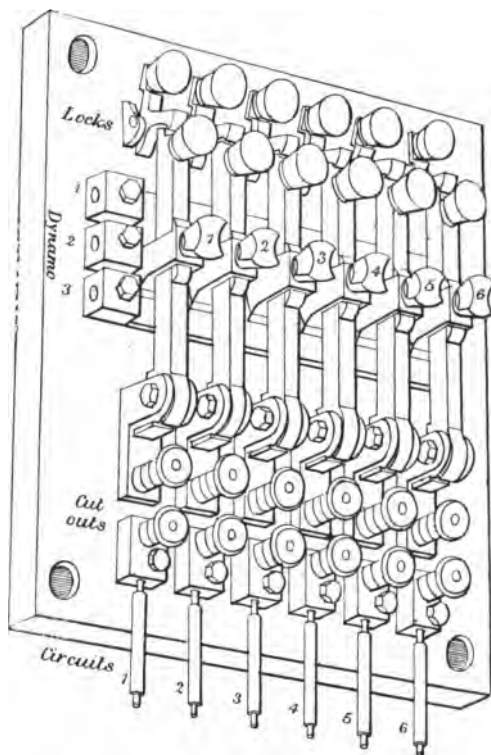

Fig. 17.—Admiralty Pattern Positive Switch-board.
*Typical Switch-board.*—Fig. 17 represents the kind of switch-board used in the ships of the English navy. It is arranged to carry the cut-outs and the opening and closing levers. The particular board represented is for the positive side of the dynamos. The terminals and arrangements are intended for three dynamos, working six circuits. The connection blocks 1, 2, and